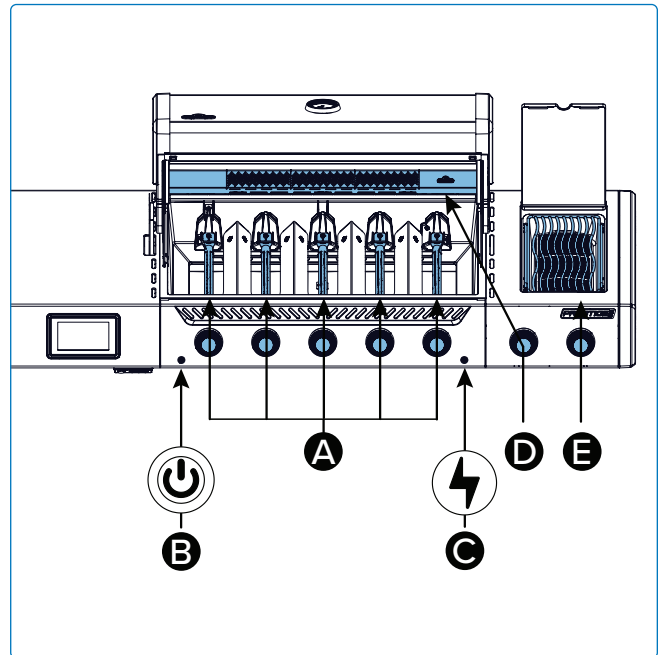

Fig. 6
5. If the burner will not light – turn burner control knob clockwise to the OFF position. Wait 5 minutes. Repeat step 3 and 4. (**Fig. 6**).